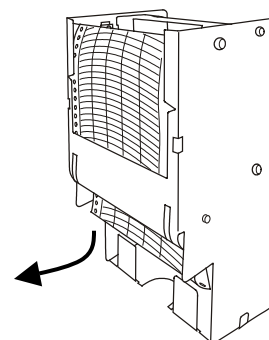

Fig. 4
The used paper left in the used recording chart compartment can cause a malfunction. Be sure to remove it. See Fig. 4.
6. By using the mounting screws and nylon clip, fix the covered temperature sensor as shown in the figure.(Fig. 4)